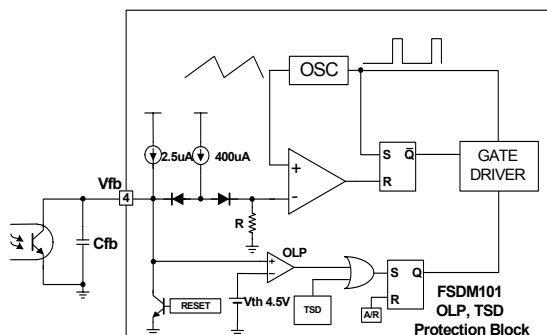

Figure 7. Protection Block
**4. Protection Circuit :** The FSDM101 has three self protection functions: over-load protection (OLP), thermal shut-down (TSD) and over-voltage protection (OVP). Because these protection circuits are fully integrated into the IC with no external components, system reliability is improved without any cost increase. If either of these functions are triggered, the FPS starts an auto-restart cycle. Once the fault condition occurs, switching is terminated and the MOSFET remains off. This causes Vcc to fall. When Vcc reaches the UVLO stop voltage (7V), the protection is reset and the internal high voltage current source charges the Vcc capacitor. When Vcc reaches the UVLO start voltage (9V), the device attempts to resume normal operation. If the fault condition is no longer present start up will be successful. If it is, however, still present, the cycle is repeated. This is shown in Figure 7.